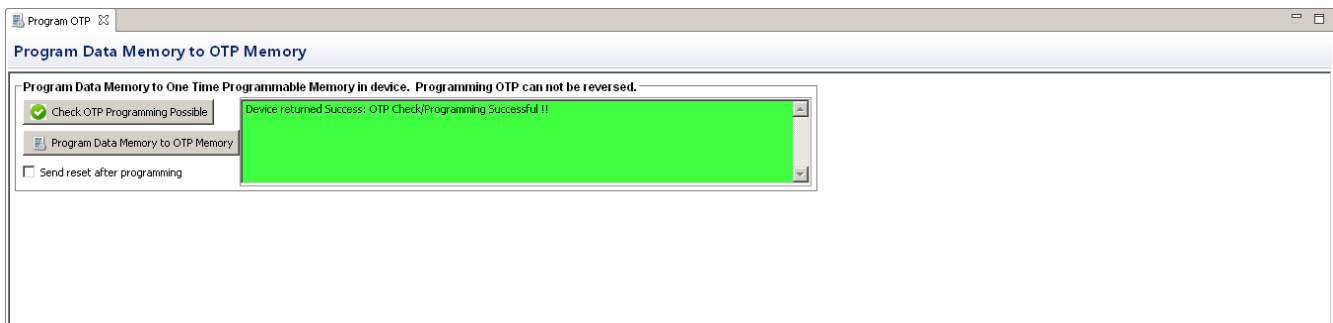

Figure 4-7. Program OTP Pane with Success Display
5. Select the Check OTP Programming Possible button. If not successful make the recommended adjustments if possible. If successful, the display is similar to Figure 4-7.